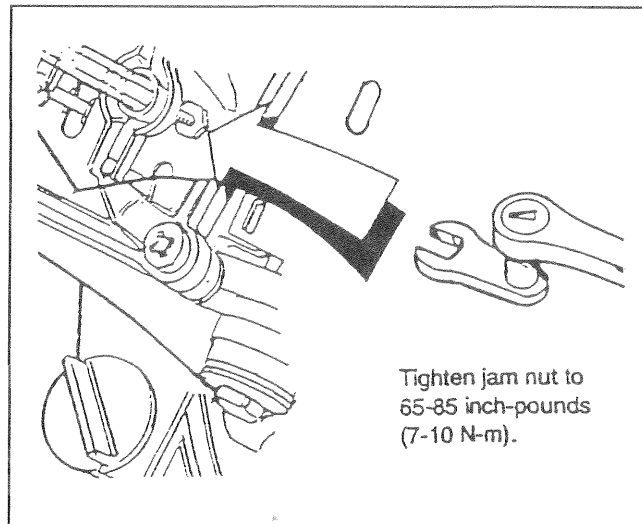

Figure 11 — Tightening Jam Nut
2. When valve clearance is correct, hold the pivot ball stud with the allen wrench and tighten the rocker arm jam nut with a crows foot. Tighten the jam nut to 65-85 inch-pounds torque. After tightening the jam nut, recheck valve clearance to make sure it did not change (Figure 11).